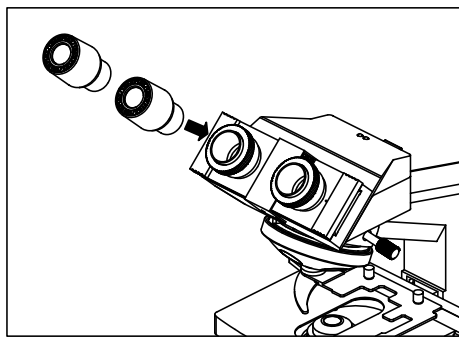
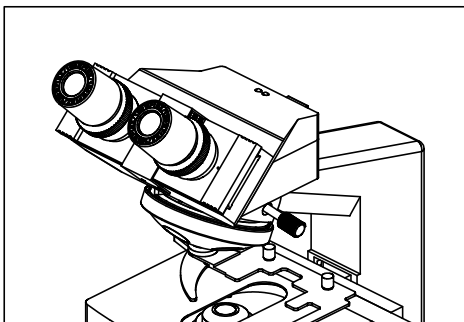

Fig.3
Fig.4
2.2.2 Installing the eyepieces (Fig.3, Fig.4)
Insert the eyepieces into the eyepiece tube until they are against each other as shown in Fig.4.